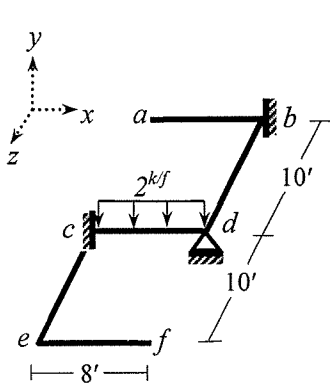

Fig.1
- Use stiffness method to calculate rotations of joint *d* of the grid system *abcdef* loaded as shown in Fig.1 [Given: $EI = 50 \times 10^3$ k-ft² and $GJ = 5 \times 10^3$ k-ft²].